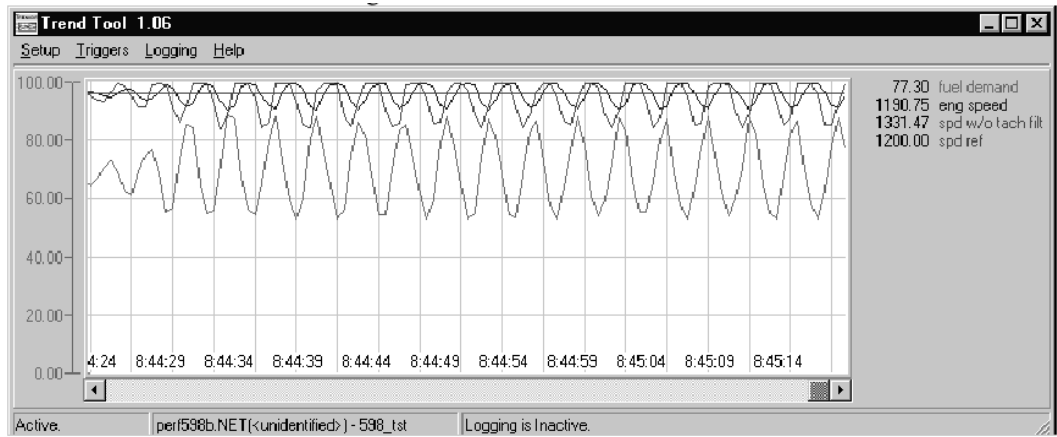

Figure 5-1. Trend Tool Trace Example 1
10. With the engine running at no load, idle speed; increase the gain one click at a time until a sustained speed oscillation is only just obtained. In between clicks, use the actuator bump feature to introduce a very small bump to the system (1% fuel demand, 0.020 seconds works well). The system oscillations will either die out in a short amount of time (stable), stay at the same amplitude for a long time (marginally stable), or keep increasing in amplitude (unstable). To start with, you will most likely be in the stable range, where the oscillations die out with time. As you increase the gain, you will eventually go into the unstable region, where you might need to switch back to 2nd dynamics to get the engine under control. Reduce the gain and switch back to 1st dynamics. Keep slightly adjusting the gain up or down until you find the setting that gives you the point of marginal stability. When you are there, the oscillations will neither decrease nor increase in amplitude. If you can maintain a constant amplitude for 30 seconds to a minute, you have found the point. If the oscillations die out, your gain is too low. If they keep getting bigger, your gain is too high. Adjust if required. The following trace (Figure 5-1) is an example. Write down the Gain setting (5.92 in this example) and call it K_u . This is needed to calculate final settings.